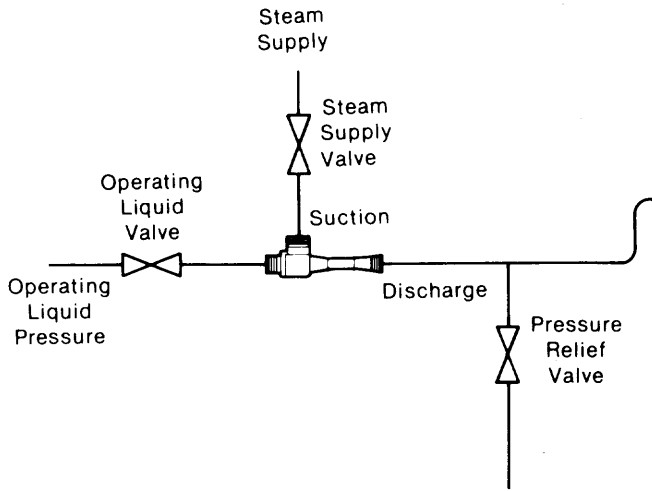

Figure 2. —Typical Installation Schematic Heating Operating Liquid
h. Some installations require the addition of a pressure relief line to reduce discharge pressure at start up, see Figure 2. If appropriate for the application, the line can be connected to a tank, drain, or the suction side of the pump supplying liquid pressure to the inlet of the heater. Back pressure limitations at start up are as follows: